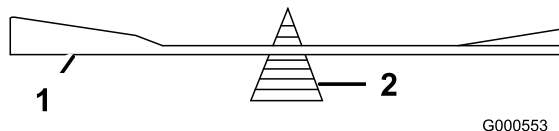

Figure 65
2. Check the balance of the blade by putting it on a blade balancer (Figure 65).